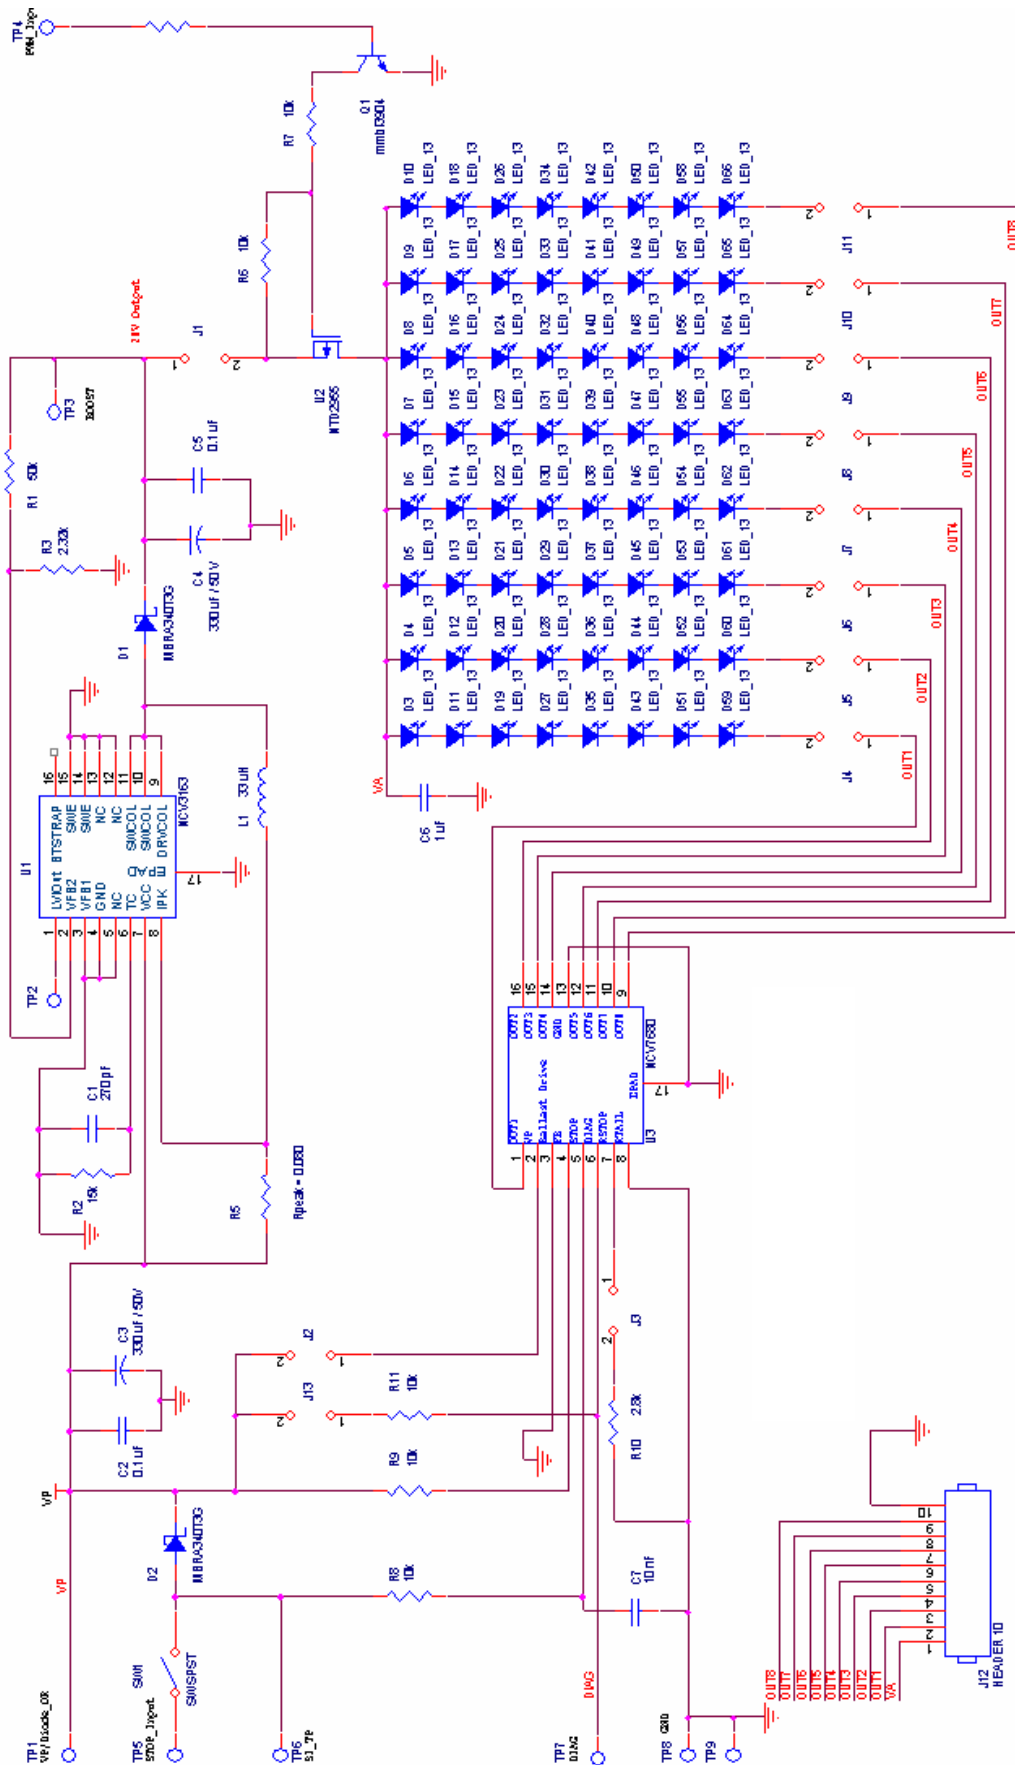

Figure 2. NCV7680-NCV3136EVB Schematic
1. There are 12 jumpers on the board. Start with all 12 jumpers connected. Jumper locations are shown in Figure 3. A list of jumper functionality is shown in the board schematic (Figure 2).